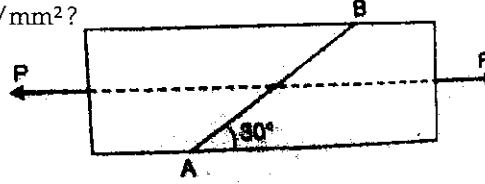

Fig. Q3(a)
- (a) Two wooden pieces 10 cm X 10 cm in cross-section are glued together along line AB as shown in Fig. Q3(a) below. What maximum axial force P can be applied if the allowable shearing stress along AB is 1.2 N/mm^2 ?